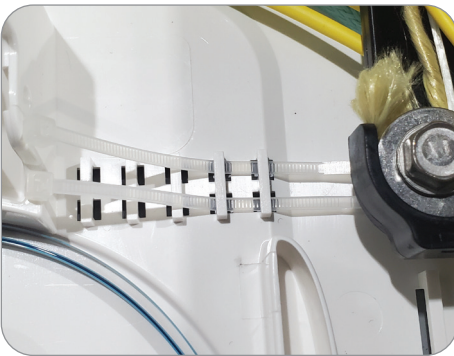

Figure 77
5. Insert two tie wraps at the splice tray entrance (**Figure 77**). This will be used to secure the sub-units or buffer tubes to the splice tray.